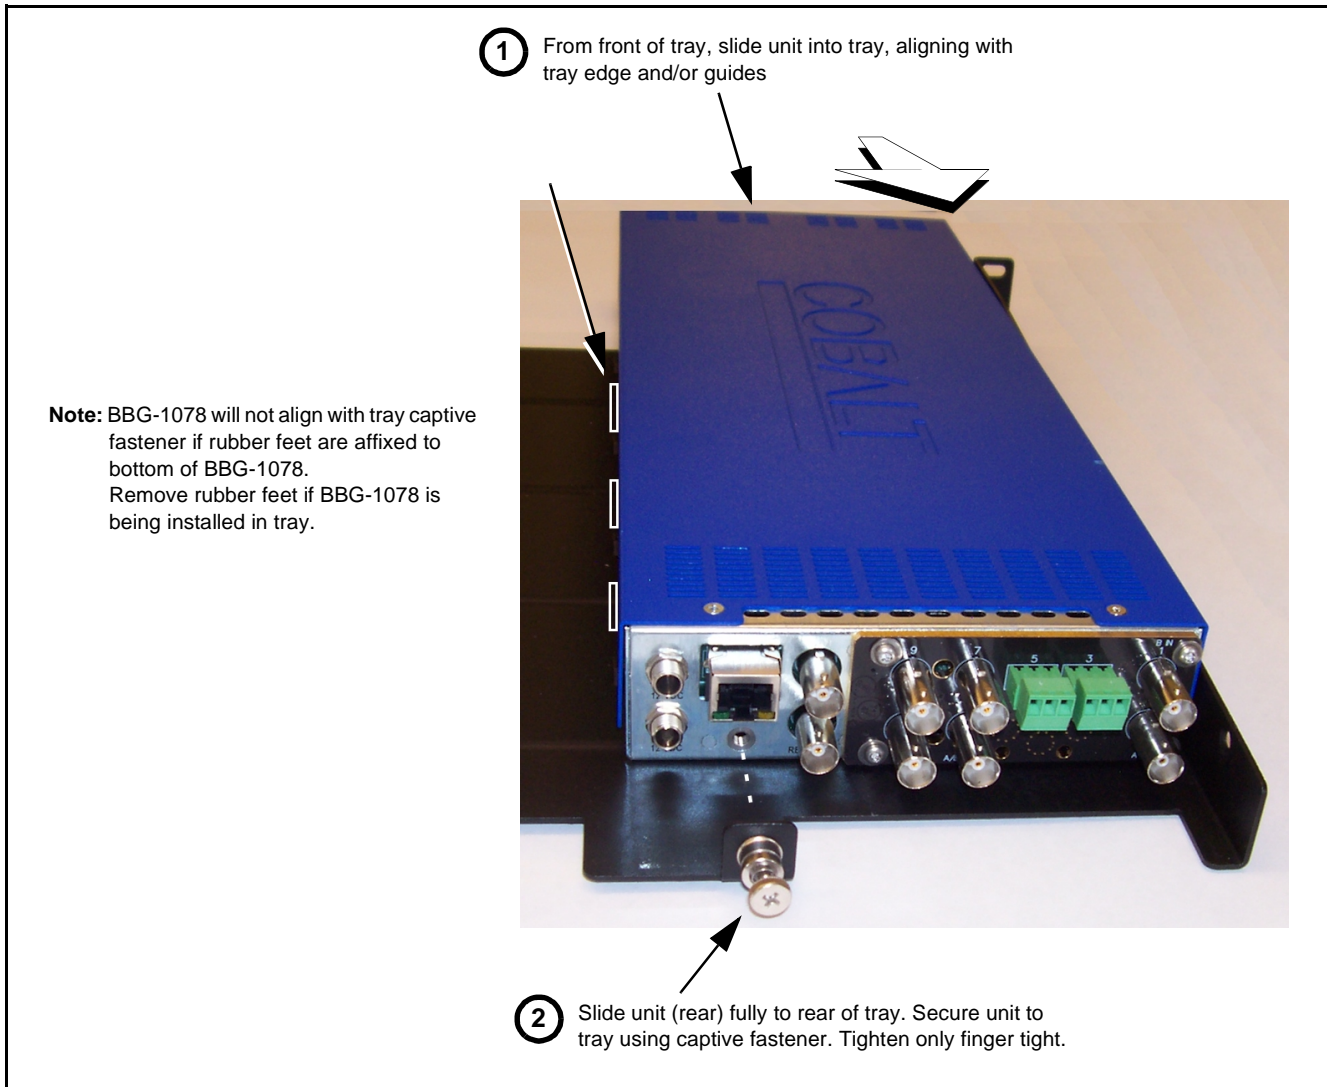

Figure 2-1 Mounting BBG-1078-ANC-MON Using Frame Mounting Tray
1. If installing BBG-1078-ANC-MON using optional frame Mounting Tray BBG-1000-TRAY, install BBG-1078-ANC-MON in tray as shown in Figure 2-1.